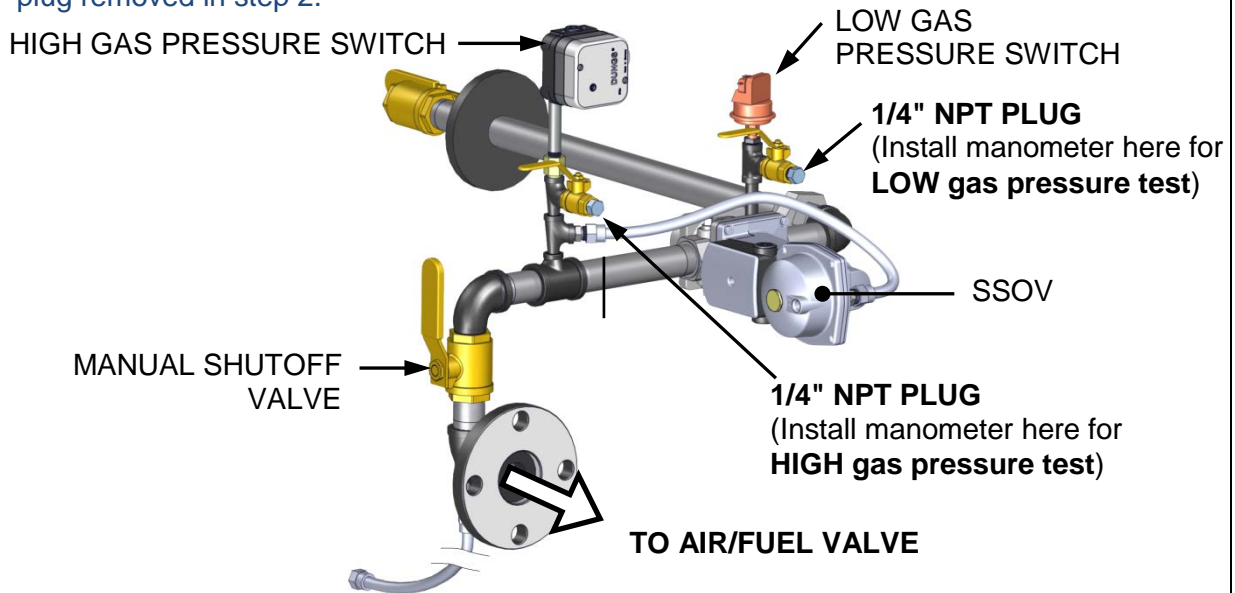

Figure 5-1. Low & High Gas Pressure Testing (INN600–1060 Gas Train Shown)
To simulate a low gas pressure fault, refer to Figure 5-1 and proceed as follows:
1. Refer to Figure 5-1 and ensure that the leak detection ball valve located at the **Low Gas Pressure** switch is closed.
To simulate a high gas pressure fault, refer to Figure 5-1 and proceed as follows:
1. Remove the 1/4" plug from the leak detection ball valve located at the **High Gas Pressure** switch, shown in Figure 5-1.